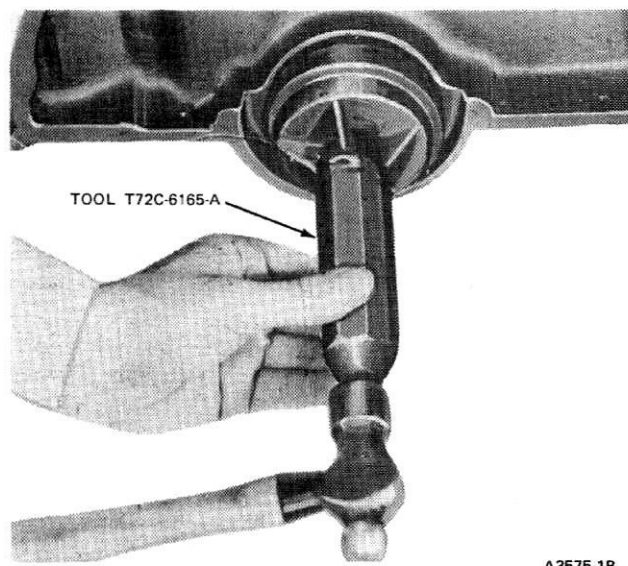

FIG. 35 Installing Crankshaft Rear Oil Seal
1. Coat the oil seal to cylinder block surface of the oil seal with oil. Coat the seal contact surface of the oil seal and crankshaft with Lubriplate or equivalent. Start the seal in the recess and install it with the tool as shown in Fig. 35. Drive the seal into position until it is firmly seated.